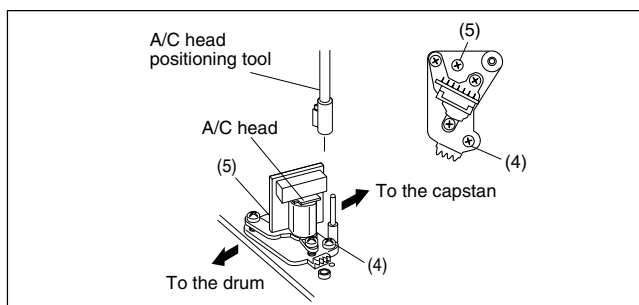

Fig. 2-5-3a
- (1) Play back the alignment tape (A1).
- (2) Apply the external trigger signal to D.FF (E), to observe the V.PB FM waveform at the measuring point (D).
- (3) Set the VCR to the manual tracking mode.
- (4) Loosen the screws (4) and (5), then set the A/C head positioning tool to the projected part in front of the A/C head. (See Fig. 2-5-3a.)
- (5) Turn the A/C head positioning tool fully toward the capstan. Then turn it back gradually toward the drum and stop on the first peak point position of the V.PB FM waveform output level. Then tighten the screws (4) and (5).
- (6) Perform the tracking operation and make sure that the V.PB FM waveform is at its maximum.